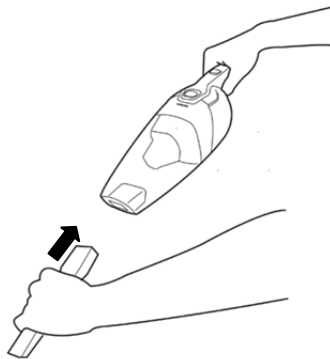

Fig. 1
2. Slide the POWER switch forward to the ON (I) position, the power indicator will illuminate (green) and the vacuum cleaner will start to work. The vacuum cleaner maybe used for approximately 15 minutes when fully charged.
3. To use the crevice nozzle, insert the crevice nozzle directly into the dust container nozzle until it is held securely (fig. 1).